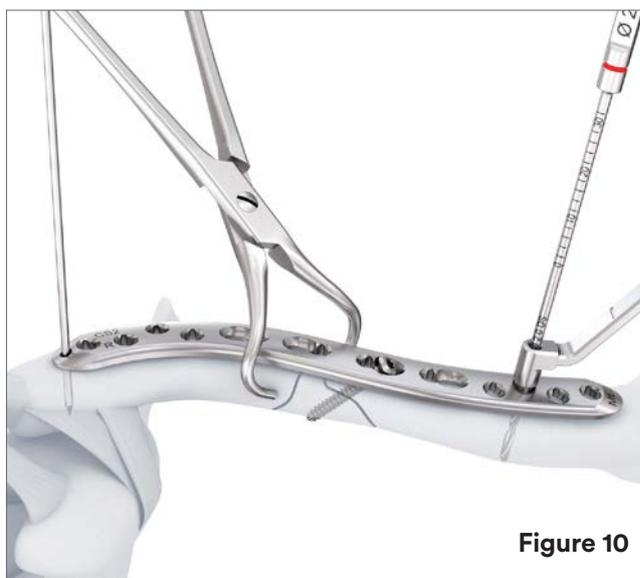

Figure 10
03.211.004	VA LCP Drill Sleeve 2.7, coaxial, f/Drill Bits Ø 2.0 mm (Figure 10)